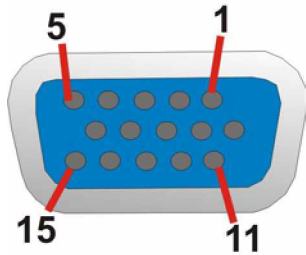

Figure 3-20: Serial Port (COM1) and VGA Connector
- CN Location:** See Figure 3-20
CN Pinouts: See Figure 3-20, Table 3-21 (VGA)